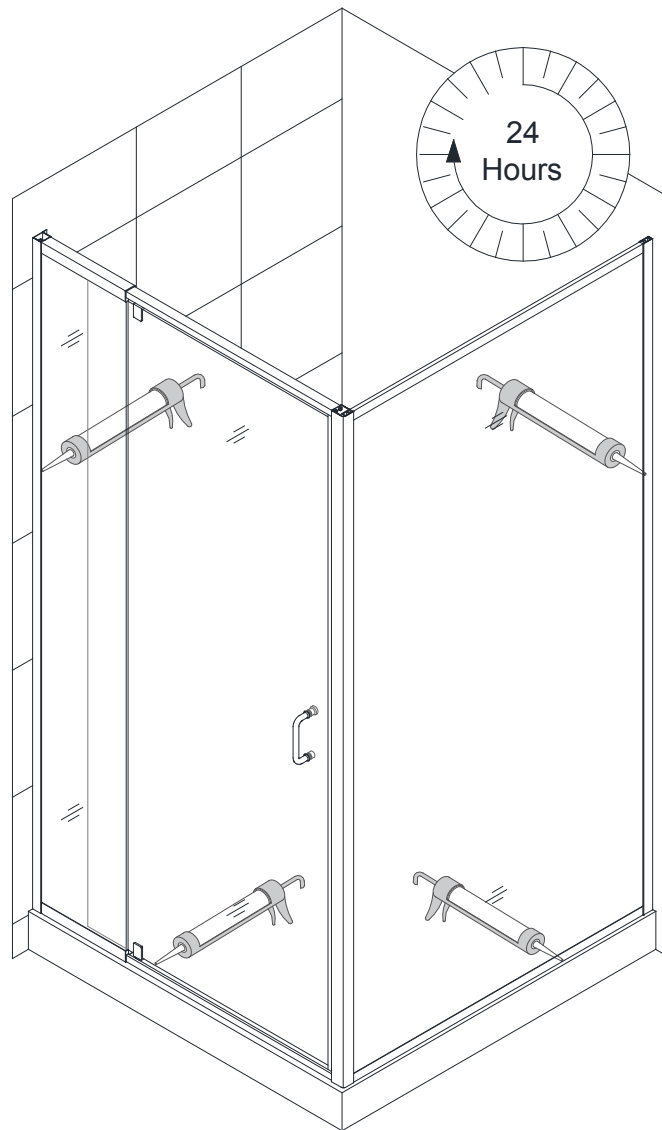

**Fig 12**
**12.** Attach the **Flanged Anti-water Strip (#07)** to the vertical edge of the Stationary panel glass. Measure and cut the **Bottom Anti-water Strip (#08)** to cover the bottom edge of the door from the pivot to both sides of the Glass door. Attach both pieces of the **Bottom Anti-water Strip** to the bottom edge of the Glass door. (**Fig 12**)